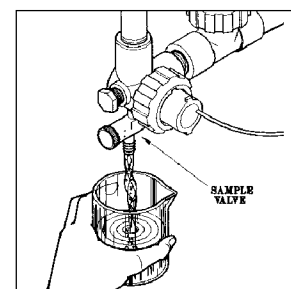

FIGURE 10
3. Obtain a sample of system water and test the sample with a reliable, calibrated tester (see figs. 10 and 11.) Make note of reading.
2. Obtain a sample of system water and test the sample with a reliable, calibrated tester (see figs. 10 and 11, pg. 21). Make a note of the reading.
4. Remove sensor. If required, clean in accordance with instructions on page 48. Dry the stainless steel electrode surface for a value of zero (0) to enter as the “LOW” calibration point in the following steps.
1. Obtain a sample of system water and test the sample with a reliable, calibrated pH tester (see figs. 10 and 11, pg. 21). Make note of reading.